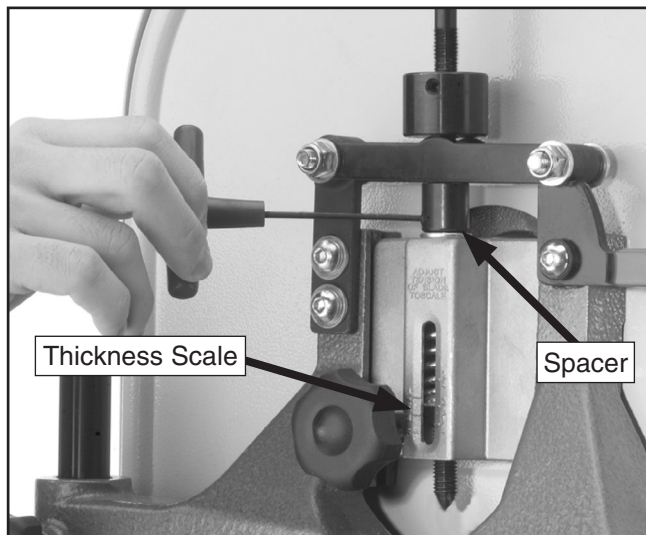

Figure 35. Tensioner adjustment.
4. Remove the setscrew in the spacer indicated in **Figure 35**, and rotate the spacer up 5-6 turns.
6. Thread the spacer down until it slightly contacts the top of the sliding bracket. Move the spacer back up the shaft about 1-2 turns to leave a small space. Replace the setscrew in the spacer and tighten (**Figure 35**).